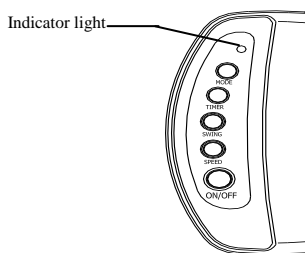

Fig.7
C. Insert 2pcs batteries into the remote control, following the directional guide in the recessed slots, and assemble the battery cover. (Fig.7)